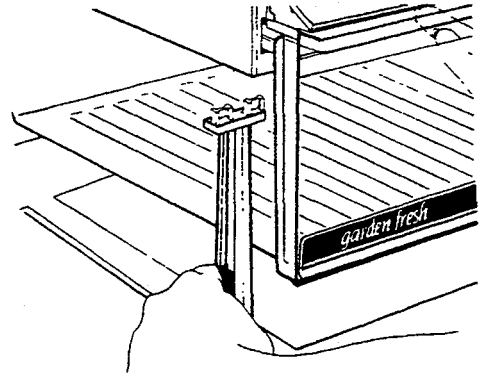

Figure 32
- i. Slide other crisper system to left* and slide out. See Figure 32.